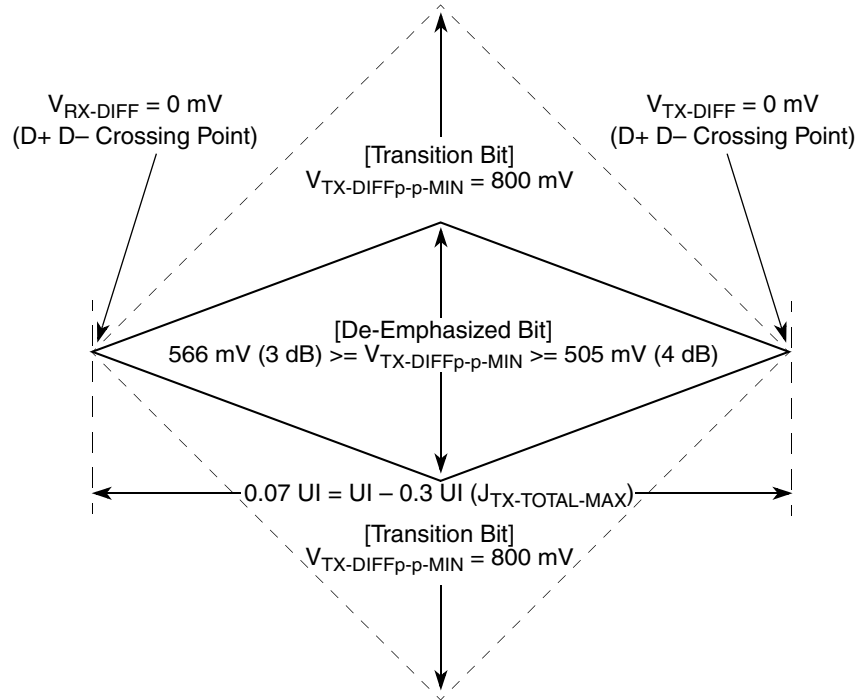
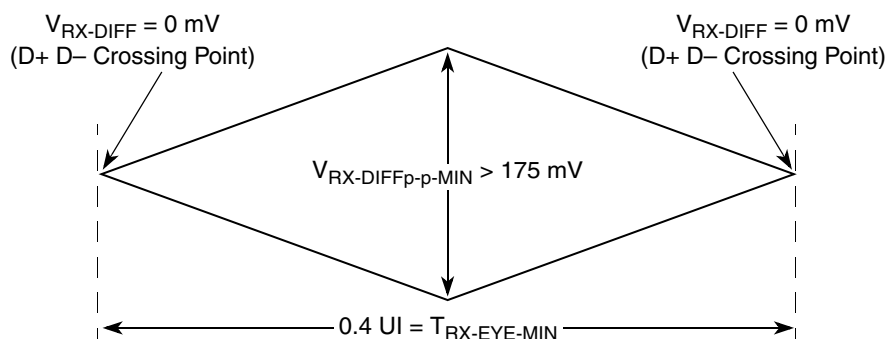
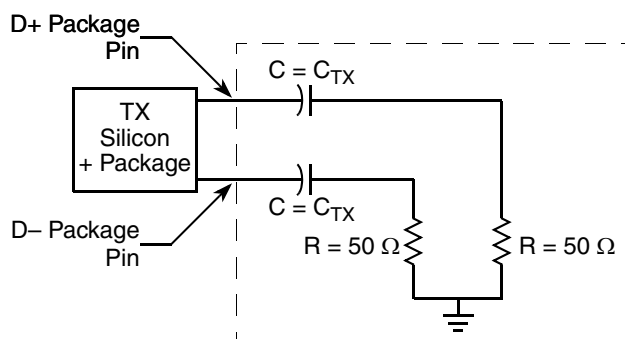

Figure 52. Minimum Transmitter Timing and Voltage Output Compliance Specifications
Figure 53. Minimum Receiver Eye Timing and Voltage Compliance Specification
Figure 54. Compliance Test/Measurement Load
2. Specified at the measurement point into a timing and voltage compliance test load as shown in Figure 54 and measured over any 250 consecutive TX UIs. (Also refer to the transmitter compliance eye diagram shown in Figure 52.)
4. The transmitter input impedance shall result in a differential return loss greater than or equal to 12 dB and a common mode return loss greater than or equal to 6 dB over a frequency range of 50 MHz to 1.25 GHz. This input impedance requirement applies to all valid input levels. The reference impedance for return loss measurements is 50 Ω to ground for both the D+ and D- line (that is, as measured by a vector network analyzer with 50- Ω probes—see Figure 54.) Note that the series capacitors C_{TX} is optional for the return loss measurement.
5. Measured between 20%–80% at transmitter package pins into a test load as shown in Figure 54 for both $V_{\text{TX-D+}}$ and $V_{\text{TX-D-}}$.
The TX eye diagram in Figure 52 is specified using the passive compliance/test measurement load (see Figure 54) in place of any real PCI Express interconnect +RX component.
2. Specified at the measurement point and measured over any 250 consecutive UIs. The test load in Figure 54 should be used as the RX device when taking measurements (also refer to the receiver compliance eye diagram shown in Figure 53). If the clocks to the RX and TX are not derived from the same reference clock, the TX UI recovered from 3500 consecutive UI must be used as a reference for the eye diagram.
4. The receiver input impedance shall result in a differential return loss greater than or equal to 15 dB with the D+ line biased to 300 mV and the D– line biased to –300 mV and a common mode return loss greater than or equal to 6 dB (no bias required) over a frequency range of 50 MHz to 1.25 GHz. This input impedance requirement applies to all valid input levels. The reference impedance for return loss measurements for is 50 Ω to ground for both the D+ and D– line (that is, as measured by a vector network analyzer with 50- Ω probes, see Figure 54). Note that the series capacitors CTX is optional for the return loss measurement.
The RX eye diagram in Figure 53 is specified using the passive compliance/test measurement load (see Figure 54) in place of any real PCI Express RX component.
In general, the minimum receiver eye diagram measured with the compliance/test measurement load (see Figure 54) will be larger than the minimum receiver eye diagram measured over a range of systems at the input receiver of any real PCI Express component. The degraded eye diagram at the input receiver is due to traces internal to the package as well as silicon parasitic characteristics which cause the real PCI Express component to vary in impedance from the compliance/test measurement load. The input receiver eye diagram is implementation specific and is not specified. RX component designer should provide additional margin to adequately compensate for the degraded minimum receiver eye diagram (shown in Figure 53) expected at the input receiver based on some adequate combination of system simulations and the return loss measured looking into the RX package and silicon. The RX eye diagram must be aligned in time using the jitter median to locate the center of the eye diagram.
The reference impedance for return loss measurements is $50\ \Omega$ to ground for both the D+ and D- line (that is, as measured by a vector network analyzer with $50\text{-}\Omega$ probes, see Figure 53). Note that the series capacitors, CTX, are optional for the return loss measurement.
The AC timing and voltage parameters must be verified at the measurement point, as specified within 0.2 inches of the package pins, into a test/measurement load shown in Figure 54.